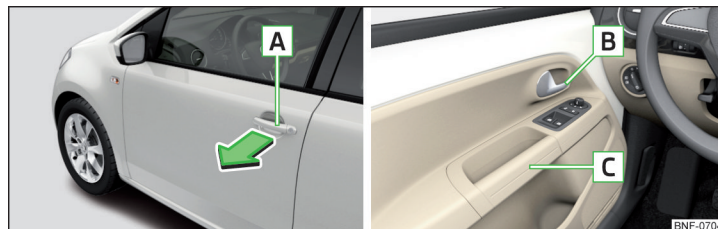

Fig. 30 Door handle/door opening lever
- Pull on the door handle [A] in the direction of the arrow » Fig. 30.